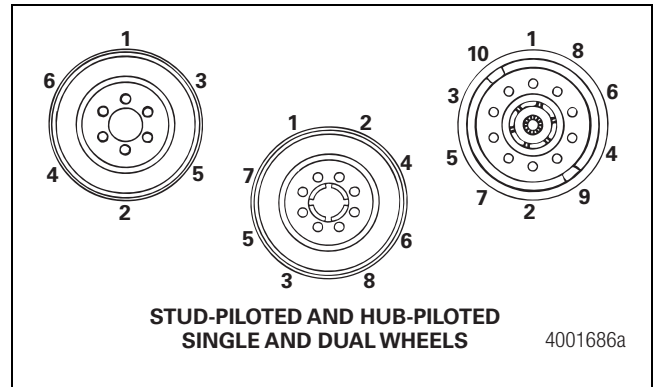

Figure 4.8
5. Carefully follow procedures when you tighten and retighten fasteners on each type of disc wheel system. Ensure that you use the correct tightening sequence. Always use a calibrated torque wrench. Refer to Table A in this section for the correct torque specifications and Figure 4.8 for the tightening sequence.